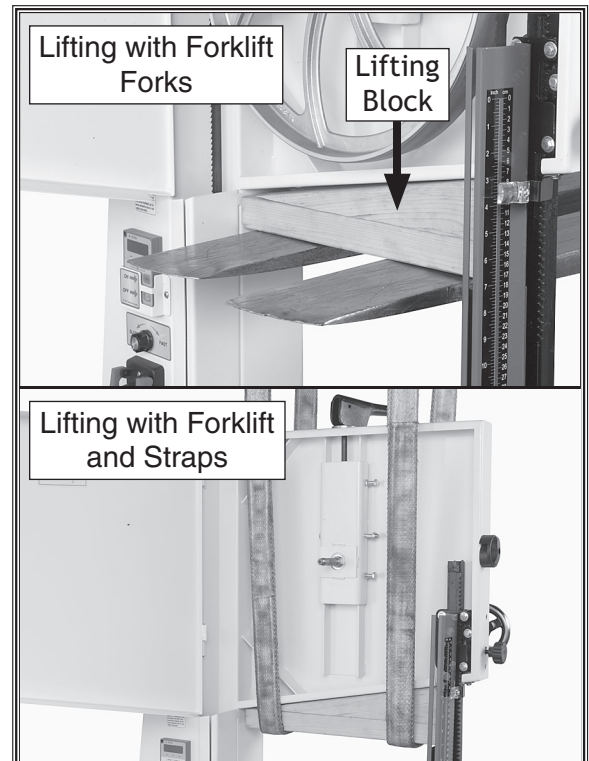

Figure 6. Lifting machine with a forklift.
2. Place the lifting block under the upper frame, as shown in **Figure 6**.